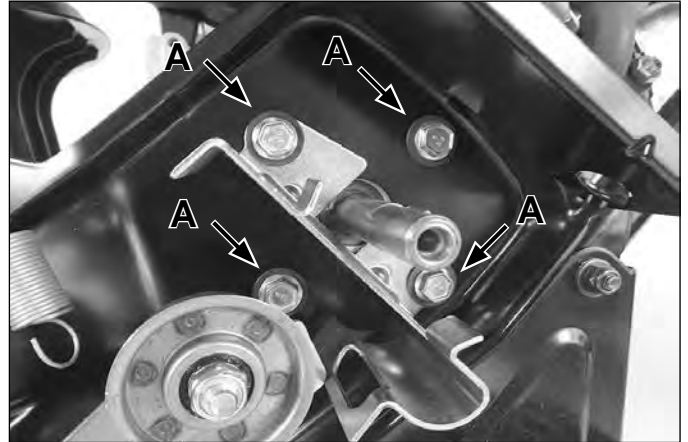

Fig. 005
5. Remove the four engine mounting bolts that connect the engine to the side plate (A) (Fig. 005).